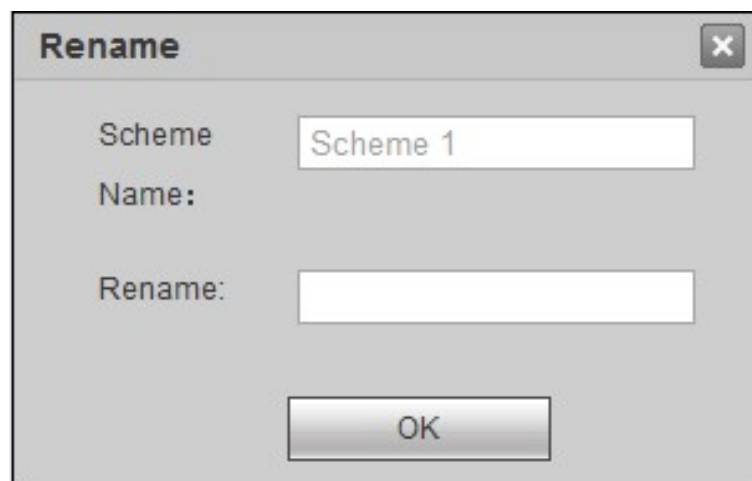

Figure 4-13
Step 2 Select "Management" tab. The system displays "Management" interface, as shown in Figure 4-13.